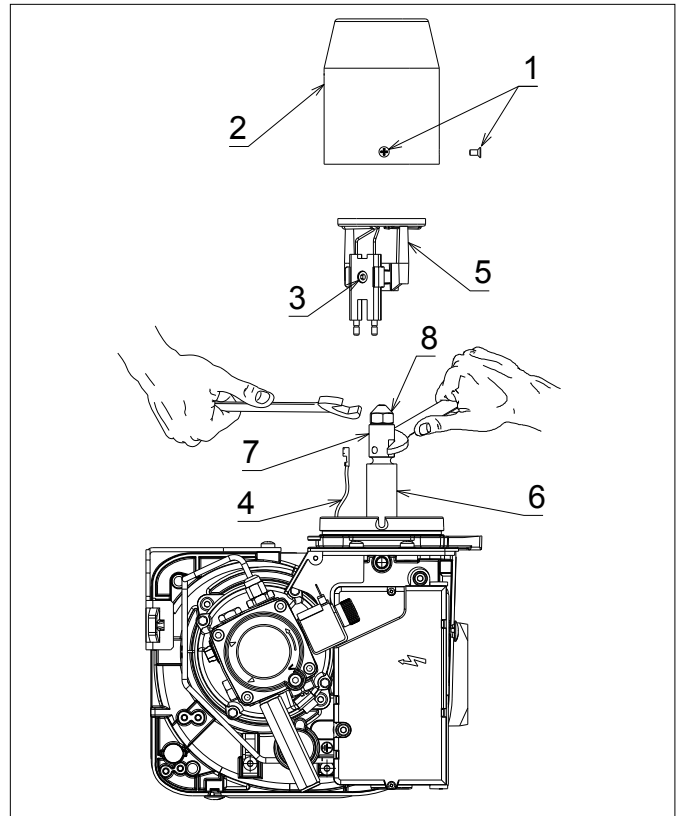

Figure 10-3: Burner head, diffuser and nozzle holder
1. Remove the burner head. Refer to Figure 10-3. Loosen the three fixing screws (1) and remove head (2) from burner.
3. If the nozzle needs to be replaced - remove the diffuser/ electrode assembly. Refer to Figure 10-3.
- Using a 4 mm Allen key, loosen the diffuser fixing screw (3) on the electrode assembly.
- Lift diffuser/electrode assembly (5) up and off the nozzle holder.
- Disconnect both ignition leads (4) from the electrodes.
5. Re-fit the diffuser/electrode assembly. Refer to Figure 10-3.
- Reconnect ignition leads (4) to electrodes.
- Re-fit the diffuser/electrode assembly (5) onto the nozzle holder lining up the fixing screws with the recess in the nozzle holder.
- Tighten the fixing screw (3) to secure the diffuser/ electrode assembly in place on the nozzle holder.